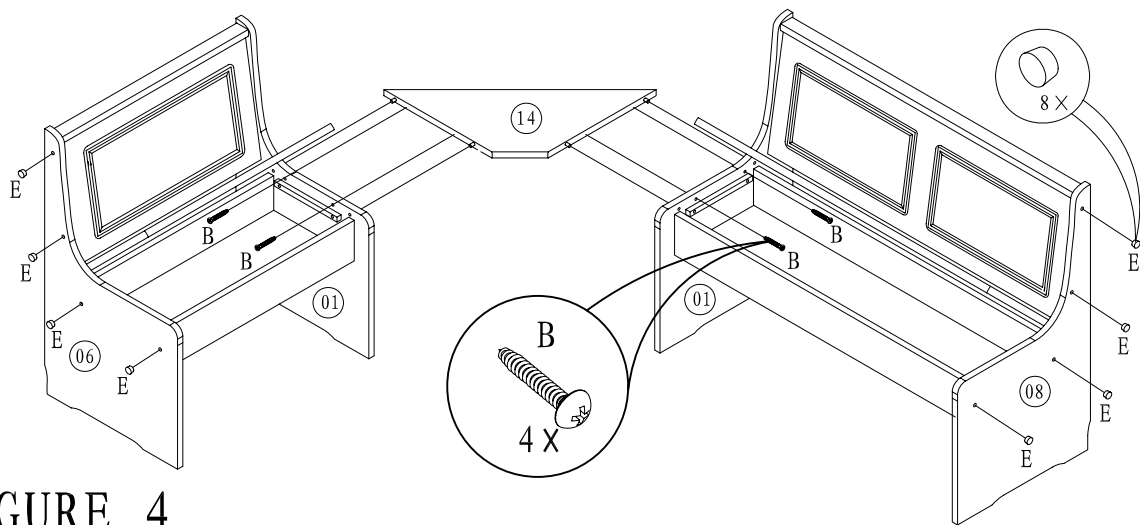

FIGURE 4
- 4.1 ATTACH CORNER SHELF #14 TO MIDDLE LEGS #1 (RIGHT AND LEFT) INSERTING WOODEN DOWELS LOCATED ON CORNER SHELF EDGE INTO HOLES LOCATED ON SIDE OF MIDDLE LEGS. SECURE WITH (04) SCREWS (B) USING A PHILLIPS HEAD SCREWDRIVER (NOT PROVIDED). AS SHOWN IN FIGURE 4.
- 4.2 INSERT (08) WOOD HOLE COVERS (E) INTO HOLES LOCATED ON LEFT AND RIGHT OUTSIDE LEGS #6 AND #8. AS SHOWN IN FIGURE 4.